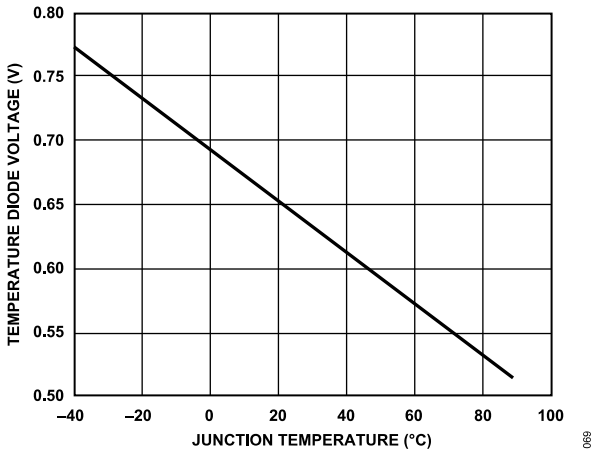

Figure 73. Typical Voltage Response of the 1x Temperature Diode
4. Set Register 0x18E6 to 0x01 to turn on voltage export of the central 1× temperature diode. The typical voltage response of the temperature diode is shown in Figure 73. Although this voltage represents the die temperature, it is recommended to take measurements from a pair of diodes for improved accuracy. The following step explains how to enable the 20× diode.